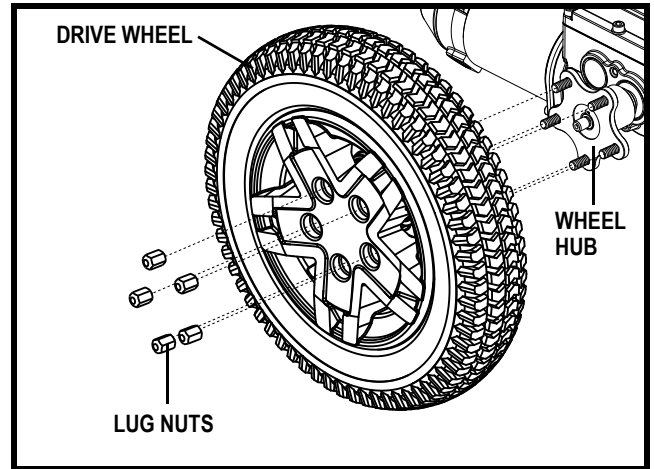

Figure 19. Jazzy 600 ES Drive Wheel
4. Remove the five (5) lug nuts from the wheel hub. See **figure 19**.
8. Reinstall the five (5) lug nuts onto the wheel hub and tighten. See **figure 19**.